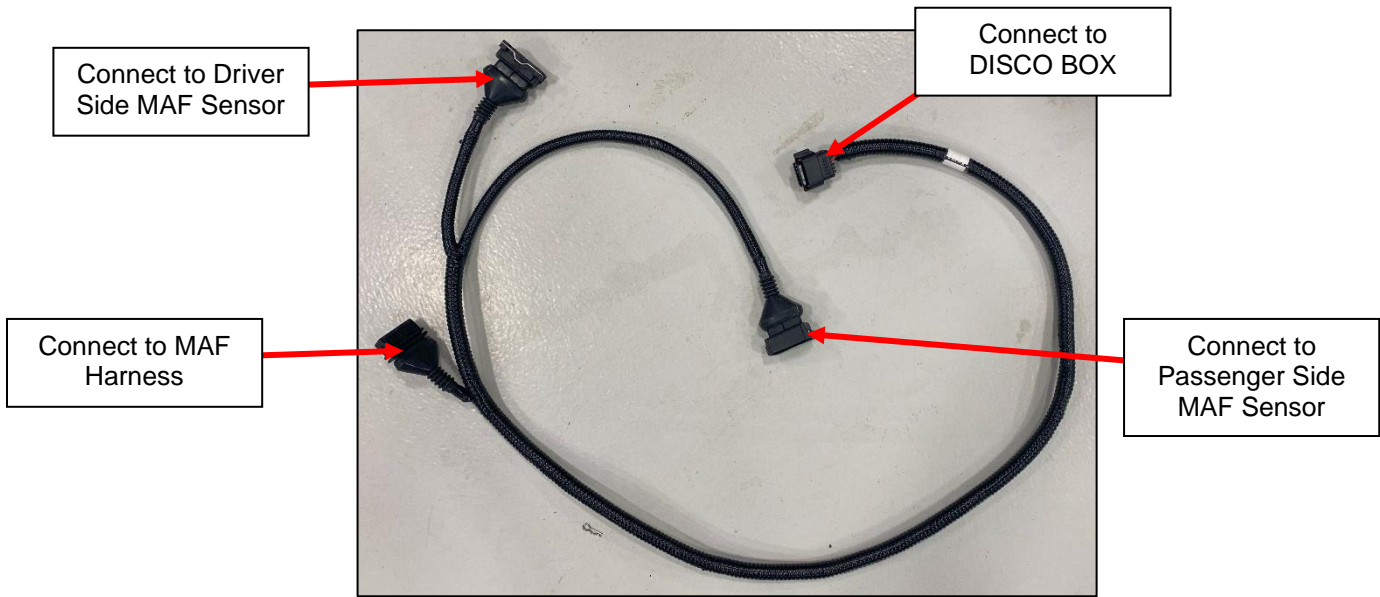
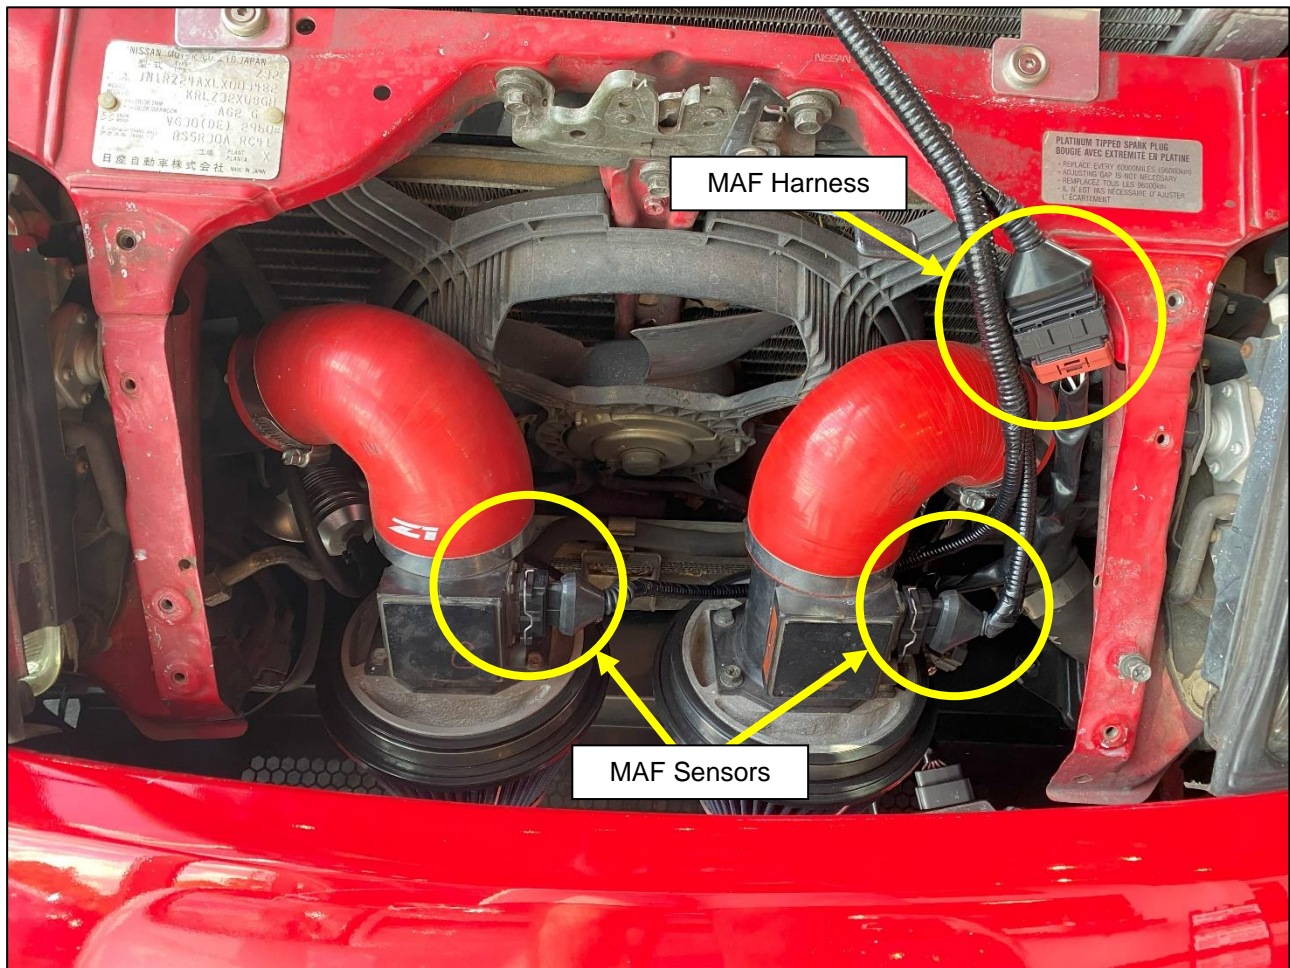

Figure 8
Figure 9
12. Locate your DISCO Box Wiring Harness. Starting with the MAF Sensors, connect the Wiring Harness to the corresponding locations as shown below in *Figure 8*, and *Figure 9*.